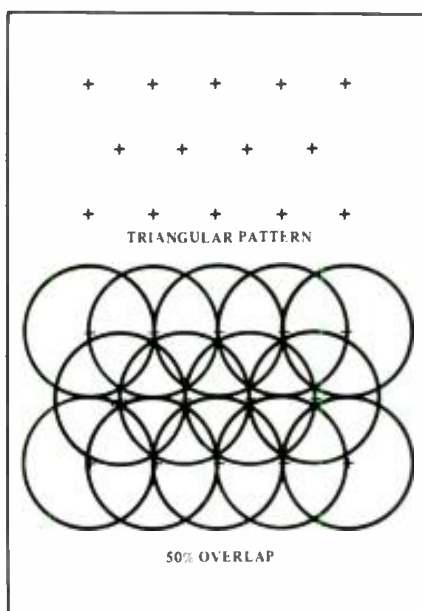

Figure 4. Loudspeaker array for densest coverage.
1. Density and nature of loudspeaker array. (Figure 4 represents the desired triangular array which produces the most even coverage. Multi-channel noise sources have been specified for greater diffusion of the masking noise. For masking-only systems, loudspeakers facing upward in the plenum above the dropped ceiling have been used.)